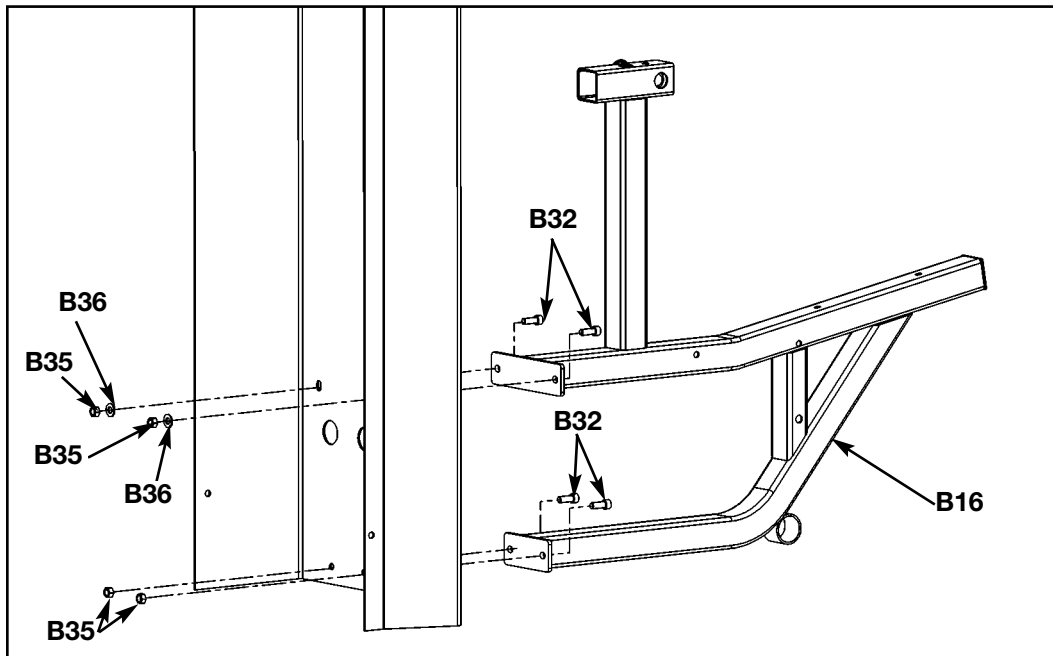

Figure 6
**3. Attach fly frame to main frame assembly** (see steps 3A - 3E and Figure 6).
- C.** Insert two SHCS .375-16 x 1.00 (#B32) through the bottom two holes of the Fly frame and attach two nylon locknuts (#B35) as shown in Figure 6. **NOTE:** Do not securely tighten hardware at this time.
- D.** Insert two SHCS .375-16 x 1.00 (#B32) through the top two holes of the Fly frame attach two washers (#B36) and two nylon locknuts (#B35) as shown in Figure 6.